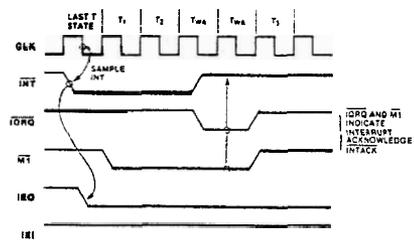

Figure 18. Interrupt Acknowledge Timing
**Interrupt Acknowledge Timing.** During  $\overline{M1}$  time, peripheral controllers are inhibited from changing their interrupt enable status, permitting the Interrupt Enable signal to ripple through the daisy chain. The peripheral with IEI High and IEO Low during  $\overline{INTACK}$  places a preprogrammed 8-bit interrupt vector on the data bus at this time (Figure 18). IEO is held Low until a Return From Interrupt (RETI) instruction is executed by the CPU while IEI is High. The 2-byte RETI instruction is decoded internally by the PIO for this purpose.